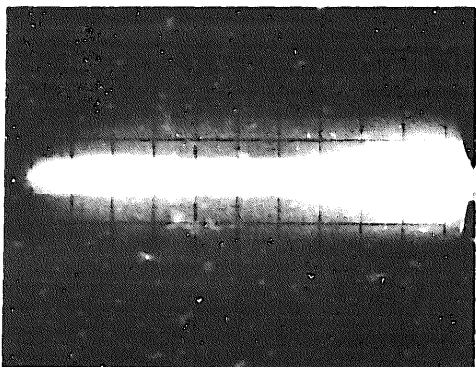
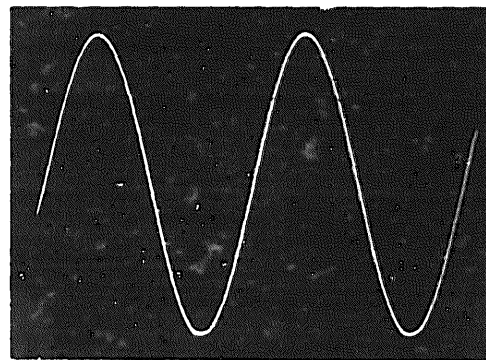

Figure 1-8. Single-shot trace bloom caused by INTENSITY and or PERSISTENCE set too high
Figure 1-9. Single-shot display with INTENSITY and PERSISTENCE set the same as Figure 1-7
- g. **BLOOM** - A visible, non-symmetrical expansion of a display written on the CRT screen. Figure 1-8.
a. **PERSISTENCE** and **INTENSITY**. These controls contribute to the duration of afterglow of a display. Always set **PERSISTENCE** and **INTENSITY** as shown in Figure 1-8. The **PERSISTENCE** control sets the rate at which a display is erased; **INTENSITY** sets the brightness of the trace as it is written. With a given **PERSISTENCE** setting, the actual duration of trace afterglow may be increased by increasing the **INTENSITY**. Since the **PERSISTENCE** control sets the rate of erasing a written display, it follows that a brighter trace will require more time to be erased. Conversely, a display of low intensity will disappear more rapidly. The same principle applies to a stored display of high and low intensity.
Trace blooming, Fig. 1-8, is the best indicator of excessive **INTENSITY** which can damage the CRT. However, blooming does not occur when **PERSISTENCE** is set to **NORMAL**. Therefore, **DO NOT INCREASE INTENSITY WHEN PERSISTENCE IS SET TO NORMAL**. Always be sure to repeat above procedure each time sweep speed or input signals change.
approach. The amplitude of the phenomena and the sweep-time required to display it will affect the persistence. For example, with maximum PERSISTENCE and some settings of INTENSITY, a single-shot straight-line trace may bloom, Fig. 1-8, and a single-shot signal with amplitude variations of several centimeters may not cause blooms, Fig. 1-9. To determine the best INTENSITY setting, connect a signal which approximates the sweep time and amplitude of the single-shot signal to be written. Set PERSISTENCE fully clockwise and trigger a single sweep of the test signal. Set the INTENSITY as far clockwise as possible without causing blooming. Repeat the single sweep signal, erasing the display and setting the INTENSITY after each trace until the desired display is obtained. This setup should give maximum persistence to the single-shot display. After the single-shot signal has been written, turn the Presentation Selector to STORE to retain the display.